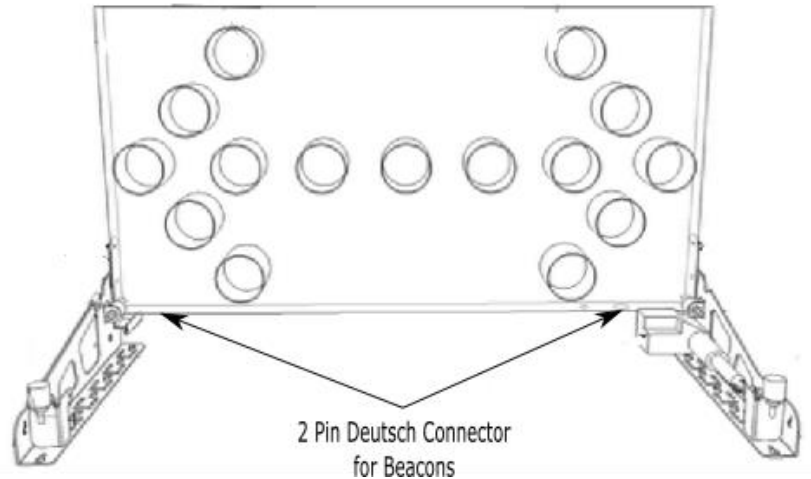

Figure 1
2. The beacon is supplied with the Deutsch Connector already fitted. This will plug directly into the two connectors on the underside of the Arrow Board. (Fig. 1)